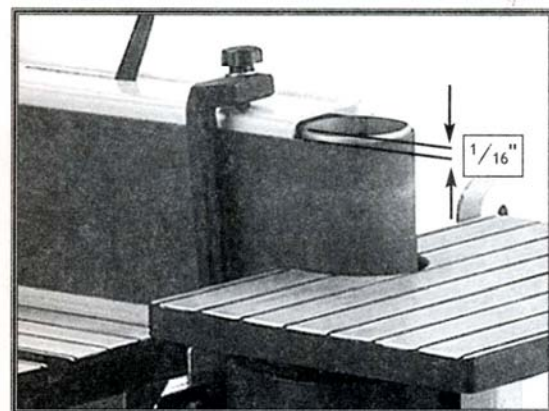

Figure 8. Proper belt tracking.
4. Check the current belt position and note if it needs to go up or down. Figure 8 shows a properly tracked belt with $\frac{1}{16}$ " of roller exposed on the top and bottom.